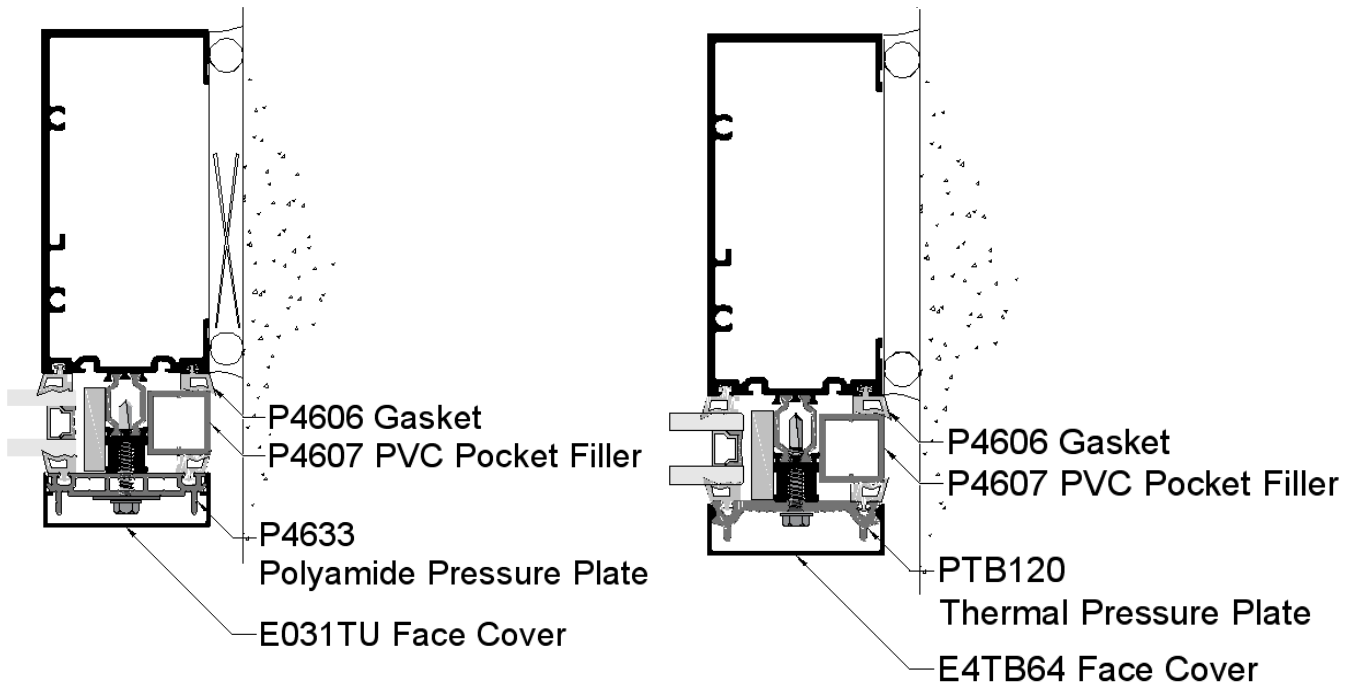

Fig. 42.1
- A. When the P4633 polyamide, or PTB120 thermal pressure plates are used, install the P4607 PVC pocket filler tube into the perimeter members. Do not overtorque polyamide pressure plate fasteners. See **Fig. 42.1**.